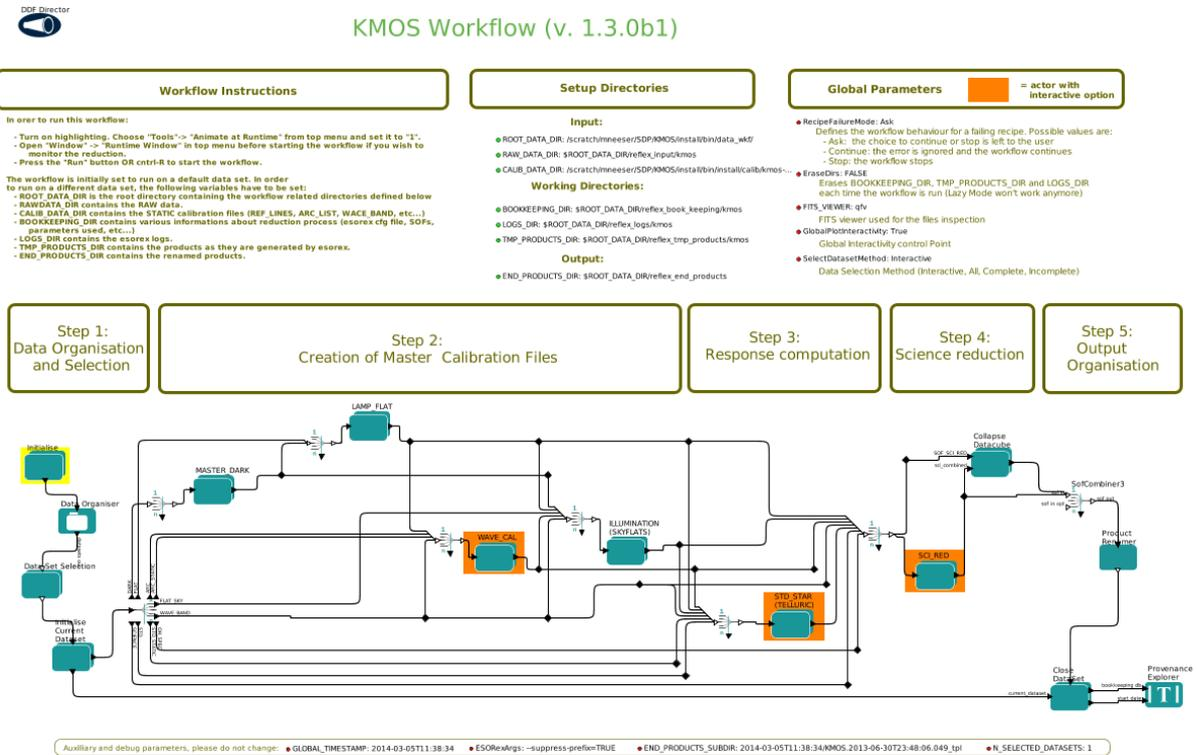

Figure 5.2: KMOS workflow general layout.
2. Now open the KMOS workflow by clicking on File -> Open File, selecting first `kmos-1.3.11` and then the file `kmos.xml` in the file browser. You will be presented with the workflow canvas shown in Figure 5.2. Note that the workflow will appear as a canvas in a new window.